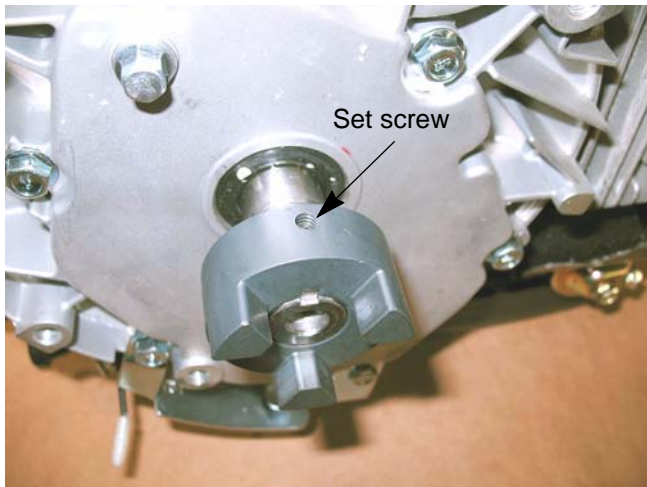

Figure 2.6
- NOTE:** The end of the crankshaft should be flush with the coupling half. See Figure 2.6.
7. Align the engine coupler halves. See Figure 2.6.